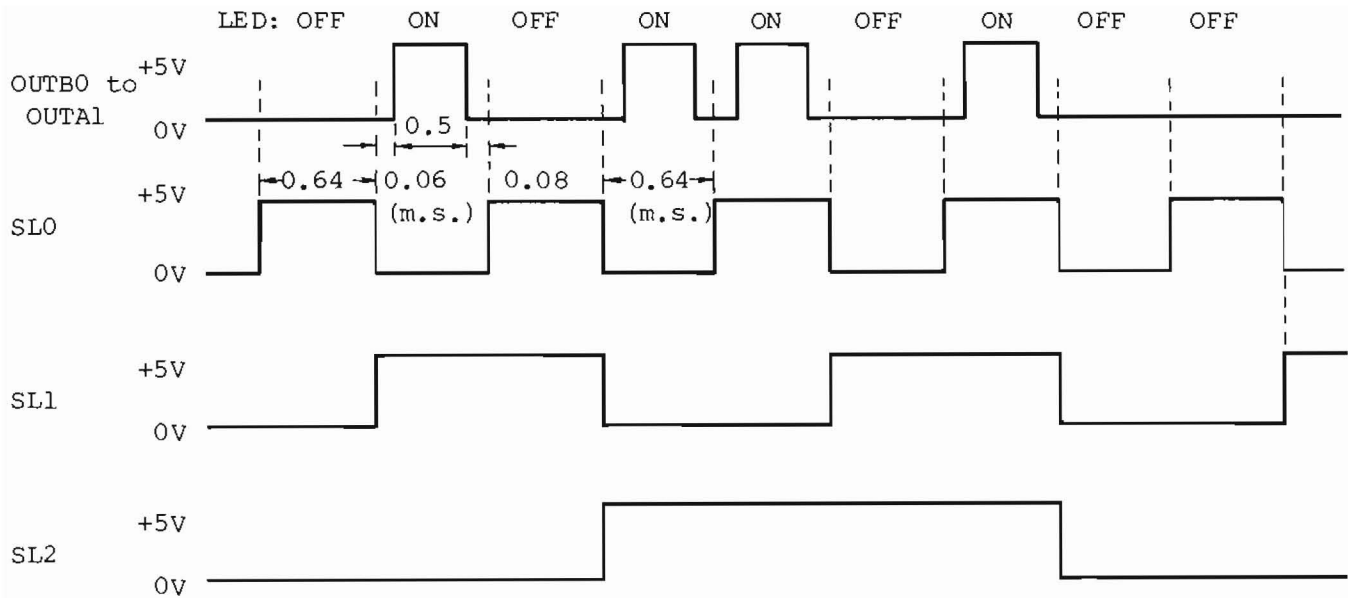
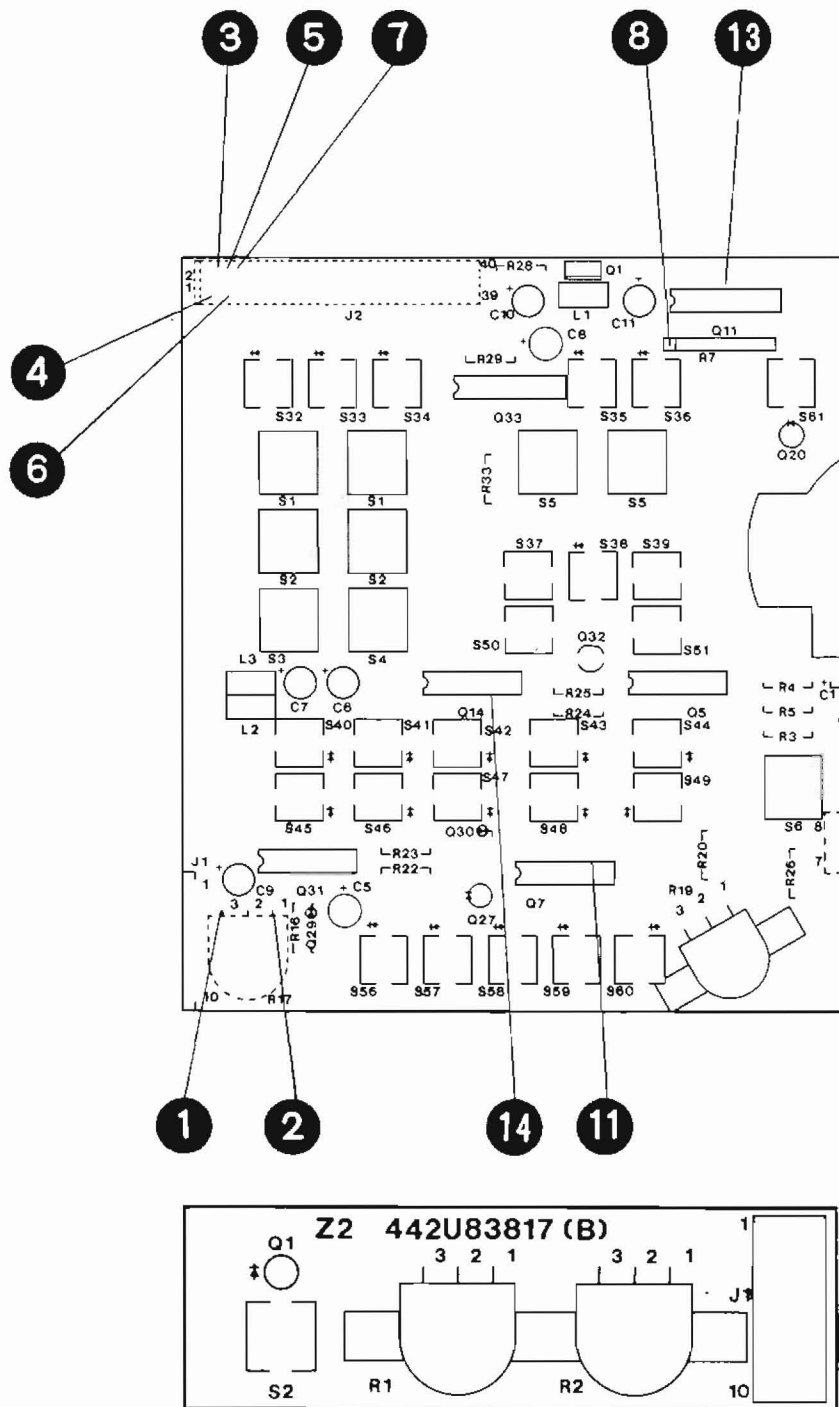

Fig. 5-1 Display Scan Timing (Z1 FRONT PANEL I)
Fig. 5-2 Z1 and Z2
2.	Use an oscilloscope to confirm that the voltages of checkpoint ① to ⑨, shown in Figs. 5-2 and 5-3, satisfy the values listed in Table 5-1 and are indicated in the figures.
3.	While turning the rotary encoder (data knob), observe the waveforms at checkpoint ⑩ on the oscilloscope and confirm that the pulse-shaped signals are being generated as below.
4.	When turning the rotary encoder clockwise, confirm that the checkpoining level ⑪ is set to the low level (0 V). When turning it counterclockwise, confirm that the checkpoint level at ⑪ is set to the high level (5 V).
5.	If an abnormality occurs during the check explained in procedure 3 or 4, recheck the abnormality by adjusting R2 ⑫.
6.	If the signal waveforms at checkpoint ⑬ SL0 to SL2 and checkpoint ⑭ OUTB0 to OUTA1 appear as shown in Fig. 5-1, they are normal.
2. The vertical chassis upon which Z3 to Z6 are mounted can be removed by disconnecting the cable and removing the setscrews that secure this block. It is not necessary to remove the entire front panel (Fig. 5-1 shown before).